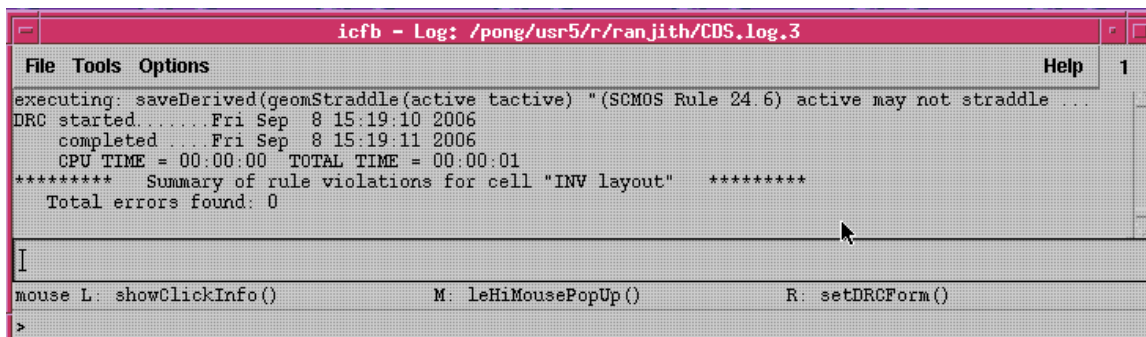

Fig.18. No DRC error
- You can see those rules run across *CIW* very fast. Finally, you have *CIW* with no DRC error as in Fig. 18.